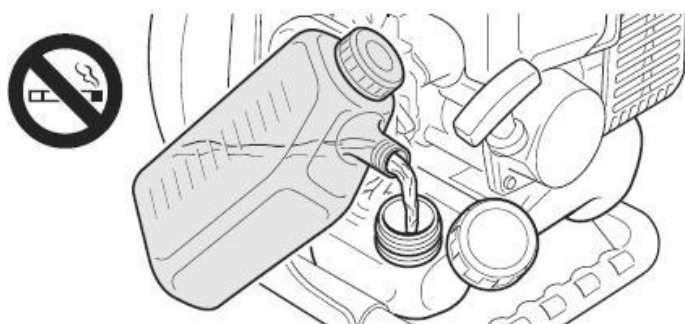

Fig. 10
- Close the graduated bottle cap and refuel using the nozzle without filling the tank to the rim (Fig. 10).